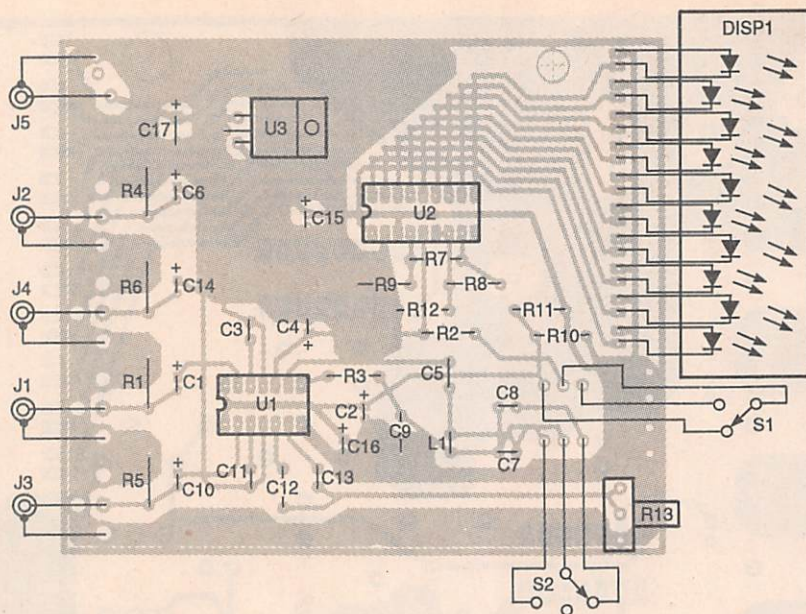

Fig. 5. Use this parts-placement diagram when assembling the Universal Noise Reduction System.
have etched the board or purchased the kit from the supplier listed in the Parts List, you can begin assembly guided by the parts-placement diagram in Fig. 5.
After you have answered the above questions and gathered the parts, assemble the circuit guided by the parts-placement diagram shown in Fig. 5. It is strongly recommended that sockets be used for all IC's. Note from Fig. 5 that the layout is designed to accommodate both straight and right-angle switches for S1-S4. When assembling the board, proceed slowly and use a low-wattage soldering iron to avoid overheating the components. Observe the proper orientation of polarity-sensitive components such as the electrolytic capacitors and diodes.
**Checkout.** Before applying power to the Data Logger, double-check the component placement and orientation with the layout in Fig. 5. When satisfied that the circuit contains no construction errors, connect a 5-volt power source to J2-a and the ground to J2-b. Set the configuration switches, S1-a-S1-e, to the illegal state (00011, respectively, with 0 meaning closed
Fig. 5. Once you have gathered the parts, assemble the circuit guided by this parts-placement diagram. It is strongly recommended that sockets be used for all IC's.